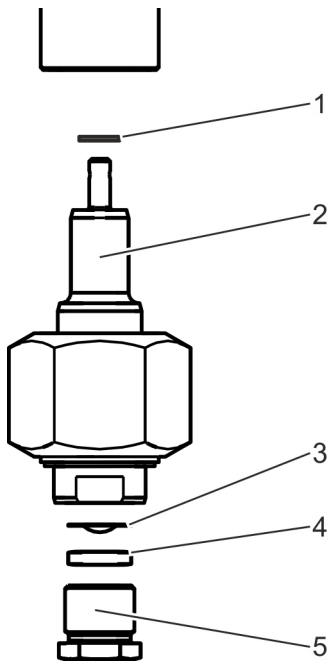

Fig. 18: Disassembling the unit
- a gasket (Fig. 18/1),
- a valve body (Fig. 18/2),
- a bursting disc (Fig. 18/3),
- a pressure ring (Fig. 18/4) and
- a pressure screw (Fig. 18/5)